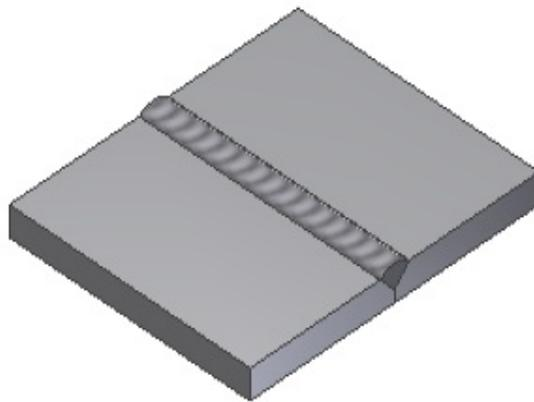

Figure 16-23 Final weldment assembly after creating the fillet weld
- Choose the **Apply** button and then the **Cancel** button to exit the dialog box. Next, choose the **Return** button to finish the creation of the fillet weld. The welded plates are shown in Figure 16-23.